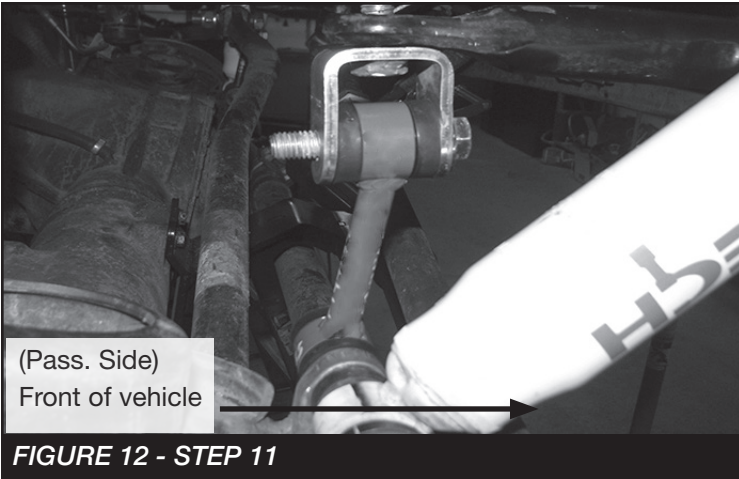
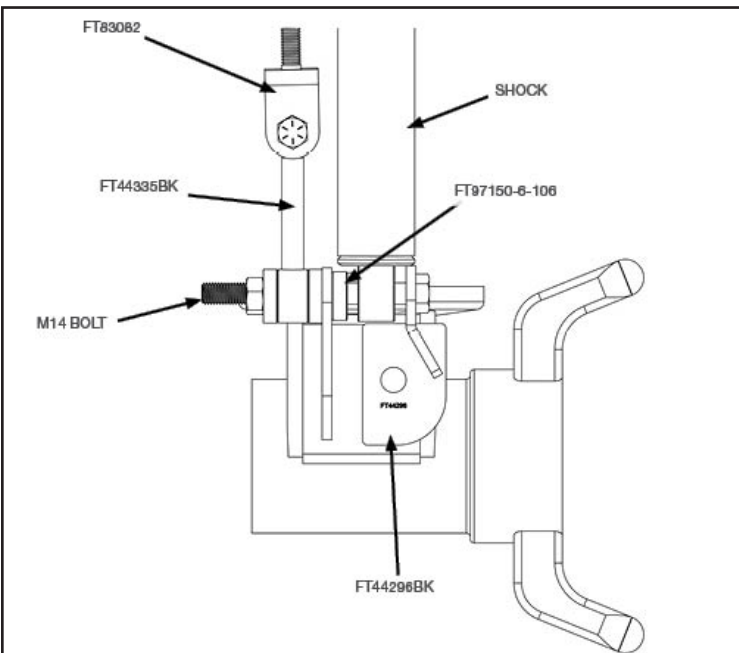

FIGURE 12 - STEP 11
FIGURE 13 - STEP 11
11. Locate the new secondary shocks and press the bushings and sleeves into place. Locate FT44335BK (sway bar links), FT1004 (bushings), FT110 (upper sleeve) and FT107 (lower sleeve). Using **FIGURE 13** as a diagram. Install the secondary shocks and end links using the provided hardware. Refer to **FIGURE 12** for the correct orientation.